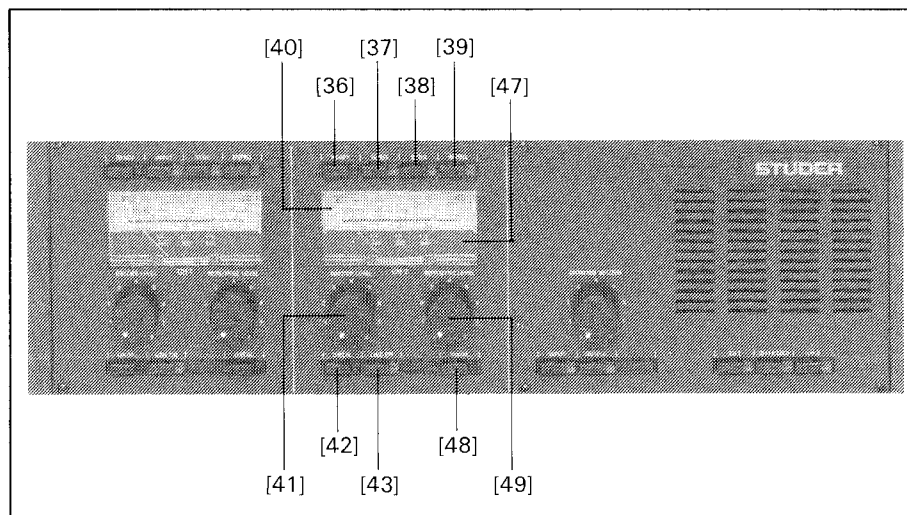

Fig. 2.4.4
Fig. 2.4.4 see 2/23
**Right control field 1****(standard 1/4" version)****Pull-out page Fig. 2.4.4**